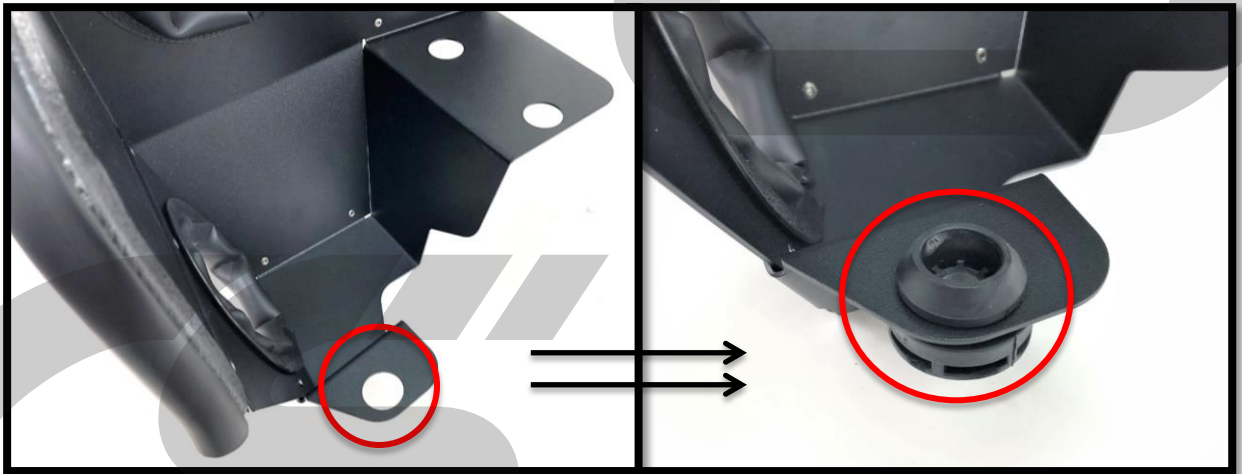

Figure 5f
- h) Install this rubber isolator into the CorkSport Heatshield in the location shown **circled in red** in **Figure 5f**. Ensure it is installed in the orientation shown.